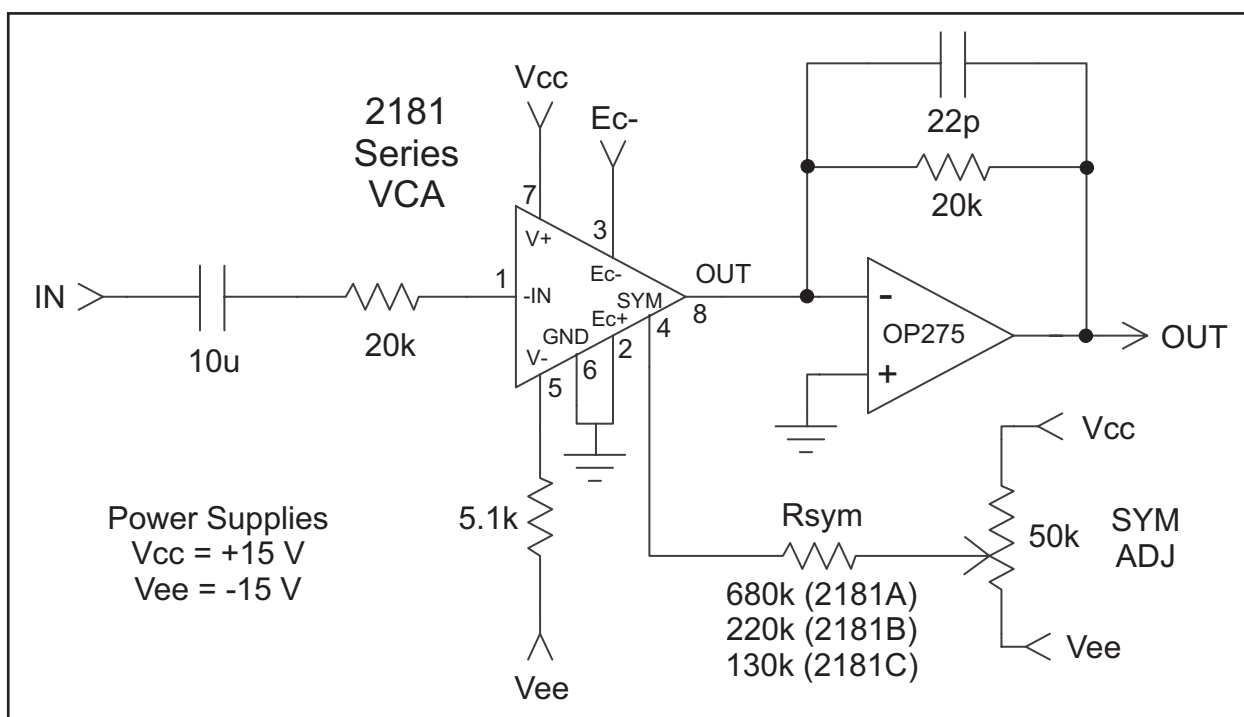
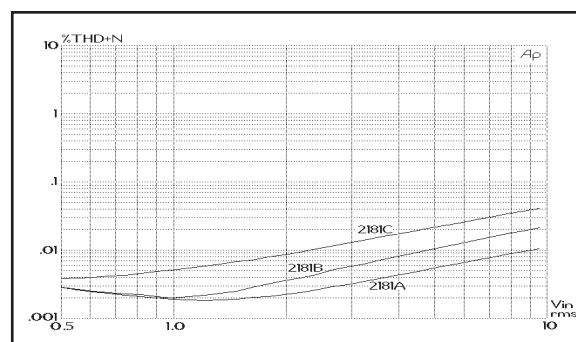

Figure 2. Typical Application Circuit
Figure 10. 1 kHz THD+Noise Vs. Input Level, 0 dB Gain
2. Unless otherwise noted, $T_A = 25^\circ\text{C}$, $V_C = +15\text{ V}$, $V_{EE} = -15\text{ V}$. Test circuit is as shown in Figure 2. SYM ADJ is adjusted for minimum THD at 1 V, 1 kHz, $E_{C-} = -E_{C+} = 0\text{ V}$
The 2181-Series VCAs are intended to be adjusted for minimum distortion by applying a small variable offset voltage to pin 4, the SYM pin. Note that there is a $25\text{ }\Omega$ resistor internal to the 2181 between pin 4 and pin 2. As shown in Figure 2, Page 3, the usual method of applying this offset is to use the internal $25\text{ }\Omega$ resistor along with a
The 2181-Series VCA design, fabrication and testing ensure extremely good audio performance when used as recommended. The 2181 maintains low distortion over a wide range of gain, cut and signal levels. Figures 10 through 12 show typical distortion performance for rep-
The Input pin (pin 1) is a virtual ground with negative feedback provided internally (see Figure 5, Page 4). The input resistor (shown as 20 k Ω in Figure 2, Page 3) should be scaled to convert the available ac input voltage to a current within the linear range of the device. Generally, peak input currents should be kept under 1 mA for best distortion performance.
Refer to Figures 10 through 12 to see how distortion varies with signal level for the three parts in the 2181 Series for 0 dB, +15 dB and -15 dB gain. The circuit of Figure 2, Page 3 was used to generate these curves.
A designer may trade off noise for distortion by decreasing the 20 k Ω current-to-voltage converting resistors used at the input and output in Figure 2, Page 3. For every dB these resistor values are de-
The Output pin (pin 8) is intended to be connected to a virtual ground node, so that current flowing in it may be converted to a voltage (see Figures 2 & 15). Choose the external opamp for good audio performance. The feedback resistor should be chosen based on the desired current-to-voltage conversion constant. Since the input resistor determines the voltage-to-current conversion at the input, the familiar ratio of R_f/R_i for an inverting opamp will determine the overall voltage gain when the 2181 is set for 0 dB current gain. Since the VCA performs best at settings near unity gain, use the input and feedback resistors to provide design-center gain or loss, if necessary.
The SYM pin (pin 4) is actually a sort of additional positive-sense control port. It is provided to allow V_{be} mismatches in the core transistors to be adjusted after packaging and installation in the circuit board. It should only be used for this purpose. Connect pin 4 only to a high-impedance source as shown in Figures 2 and 15.